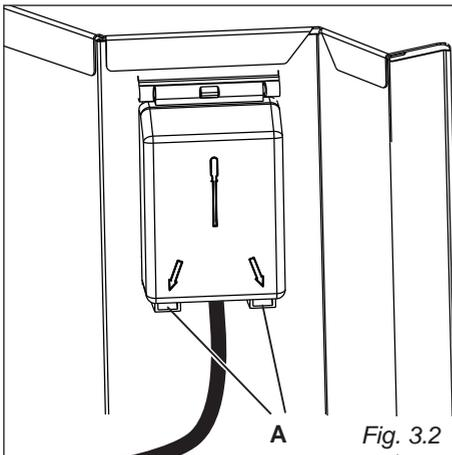

Fig. 3.2
- Unhook the terminal board cover by inserting a screwdriver into the two hooks “A” (fig. 3.2).